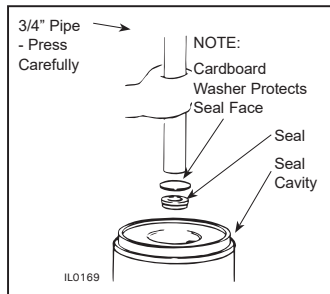

Figure 8 - If Necessary, Press with Cardboard and Pipe
3. If seal does not seat squarely, remove and reclean the seal cavity. Place a clean cardboard washer over the polished seal face and carefully press into place using a piece of pipe or tubing (see Figure 8). Discard cardboard washer.